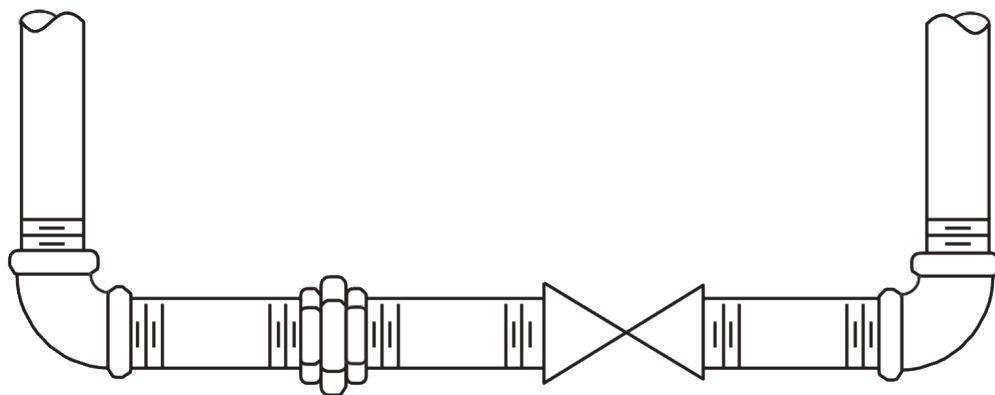

Figure 2 Double-line drawing
- **Figure 2** House Numeric Labels , by Cmdrjameson (adapted original by InfoCan) on Wikimedia Commons is used under the CC BY-SA 3.0 license.
Figure 2 illustrates some of the common symbols used in double-line pipe drawings. Note that threaded fittings are drawn to a close approximation of the actual shape of the fitting. The valve is strictly symbolic.